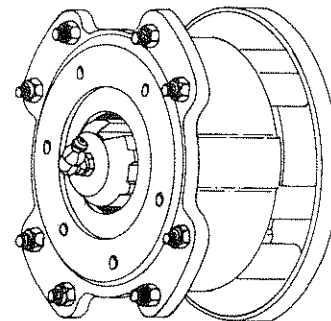

Fig. 57
P.T.O. Shaft Slip clutch adjustment, see Fig. 57:
1. Completely loosen all nuts (8) so that the springs just make contact OR loosen all the way then re-tighten until they just make contact.